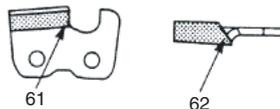

Fig. 46
- 6) File enough to remove any damage to cutting edges (side plate (61) and top plate (62)) of cutter. (Fig. 46)